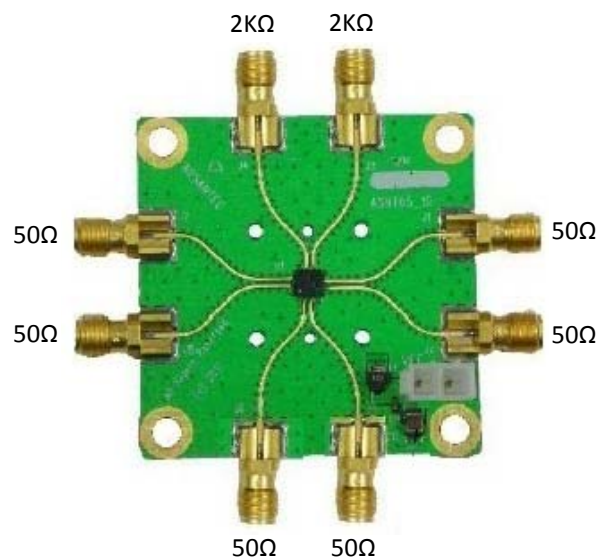

Fig. 2. Impedance of I/O Connectors
2. Measure the resistance of all connector pins to VCC, including the power supply, while making sure the board is grounded. All high speed I/O ports should measure 50Ohms while on the power supply connector, VEE should be high impedance and GND should be a short. icntp/icntn should measure 50Ohms and tnp/tnn should measure 2.0KOhms. Fig. 2 shows the resistance values of the described I/O connectors.